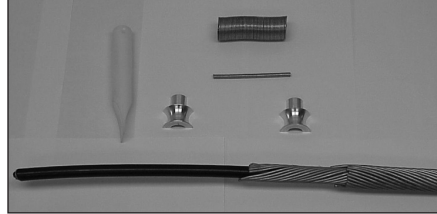

FIGURE 1: Included parts.
1. Parts included: AFL FIT tool, Corona Ring, Inner Spring, Split Corona Sleeves, ADSS Cable with Structural Reinforcing Rods, and Dead End (**Figure 1**).